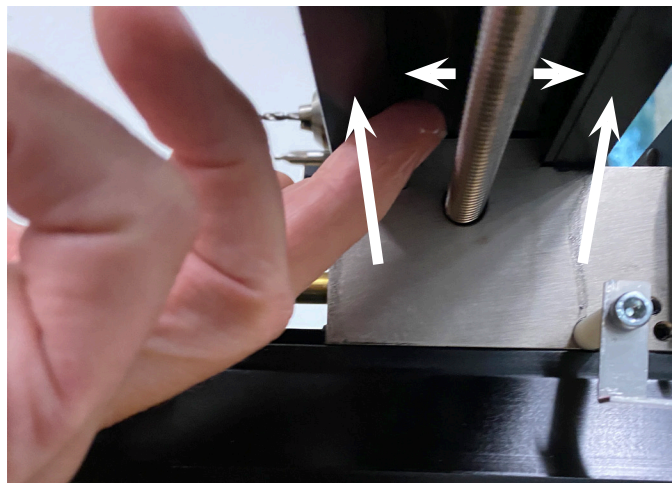

FIGURE 4—The white arrows indicate the dovetail and mating surfaces that require lubrication.
3. To lubricate the top dovetail surface, place a drop of 3-in-One oil on your finger tip. Then wipe it on the bottom and inside dovetail surface of the exposed dovetail on the mill table or crossslide when the machine is at the home position (see Figure 4). Then jog the table to the other end of travel and back to home. This will lubricate all mating dovetail surfaces on the top of the saddle. Feel the top dovetail surface periodically (once a week). If the surface is dry, apply more oil.